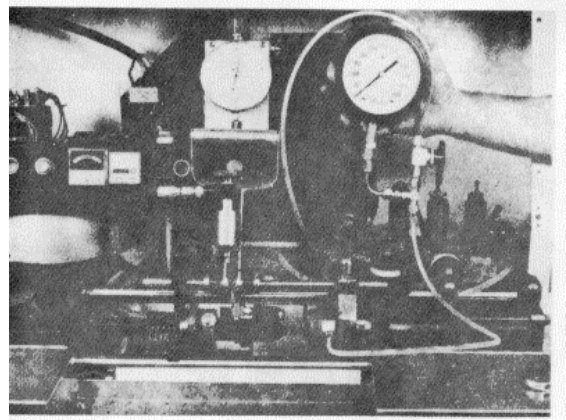

Figure 16H-108. Nose Cone Leak Test Hook-Up
- Assemble a tee, tubes, valve and 0-600 psi (4136 kPa) pressure gauge, Figure 16H-108.